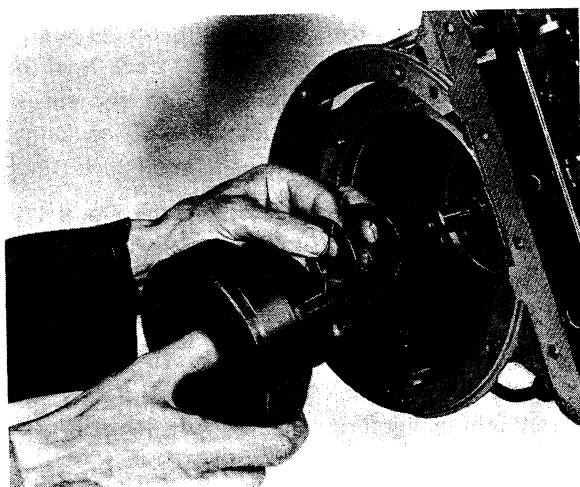

Fig. 4-105. Installation sequence, front clutch cylinder
18. Install the clutch assembly with its two different thrust washers in the gearbox, see Fig. 4-105. Be careful not to damage the oil sealing rings. For identification of the thrust washers, see Fig. 4-91.